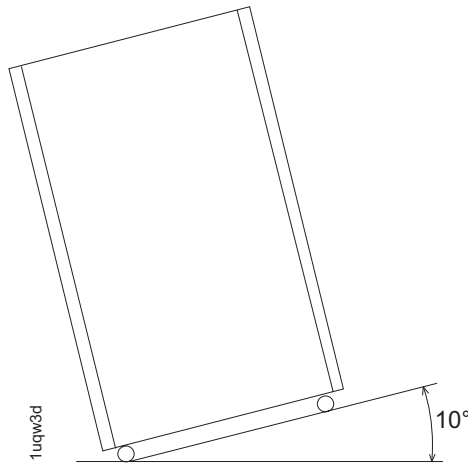

Figure 13. Maximum tilt for a packed unit is 10°
3. To compensate for the weight of the DS8000 shipment, ensure that the loading ramp at your site does not exceed an angle of 10°. (See Figure 13 on page 70.)